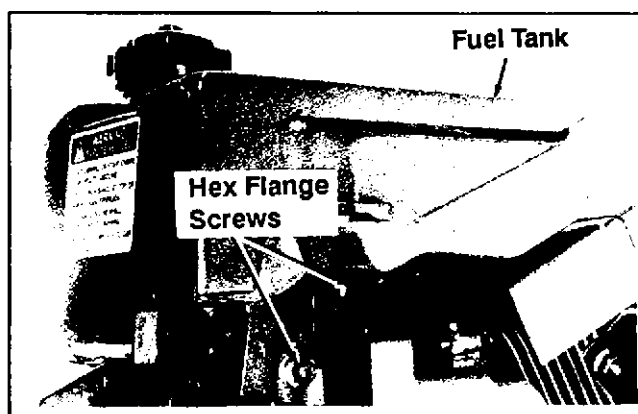

Figure 11-31. Installing Fuel Tank (CH5).
2. On CH5, secure the fuel tank to the engine using hex. flange screws. Torque the hex. flange screws to 17 N•m (150 in. lb.). See Figure 11-31.